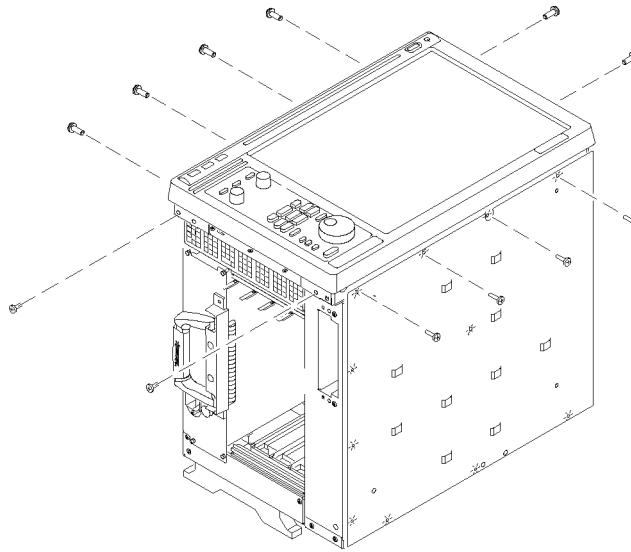

Figure 47: Remove the front-panel trim screws
8. Remove the 12 T-15 screws from the front panel trim. (See Figure 47.)